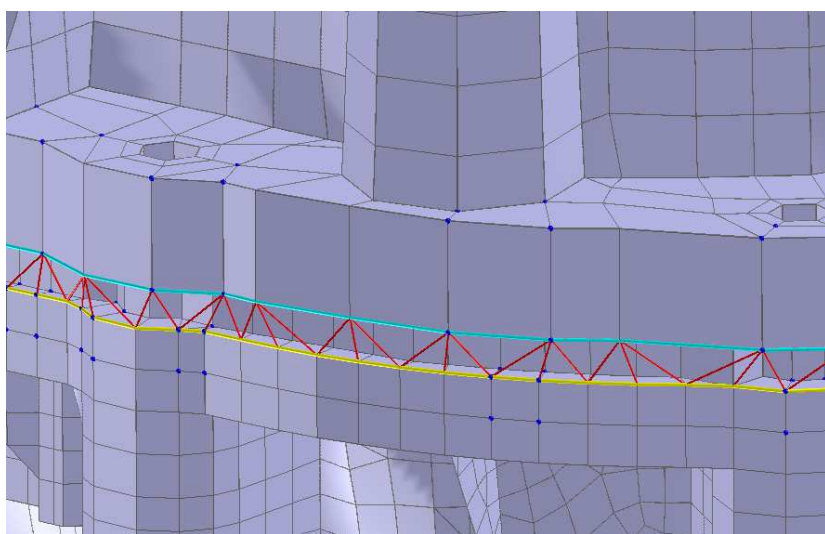

Figure 5.39: Transparent elements shown for inspection before Stitching Seams.
- Once two valid seams are created, *Coustyx* fills up the gap between the seams with transparent 2-D triangle elements for inspection. See Figure 5.39.